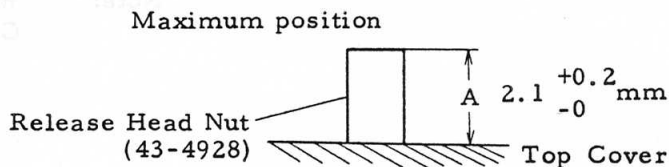

Fig. 21
- 1) At the maximum position above the camera mounting face (Top Cover surface), the distance "A" should be $2.1 \begin{smallmatrix} +0.2 \\ -0 \end{smallmatrix}$ mm. See Fig. 21.